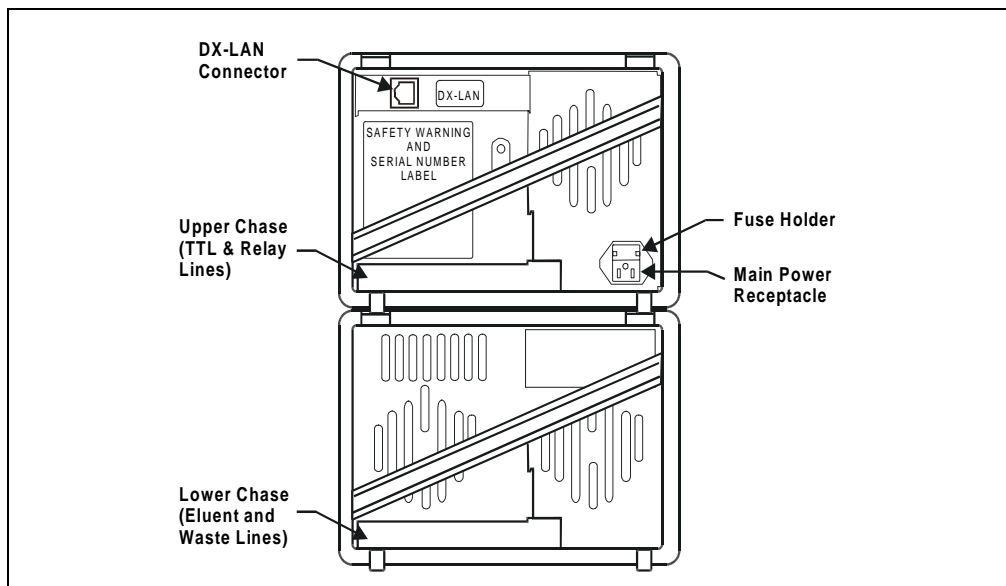

Figure B-1. IC25A Rear Panel
Connect a modular power cord (IEC 320 C13) from the main power receptacle on the IC25A rear panel (see Figure B-1) to a grounded, single-phase power source.
1. To replace an existing detector interface card, remove the DX-LAN cable from the 10BASE-T connector on the IC25A rear panel (see Figure B-1).
3. Connect the other end of the cable into the 10BASE-T DX-LAN connector on the IC25A rear panel (see Figure B-1).
1. To replace an existing detector interface card, remove the hex nut securing the DX-LAN BNC connector to the IC25A rear panel (see Figure B-1).
- a. Note the two small locking pins on either side of the DX-LAN BNC connector on the rear panel (see Figure B-1).